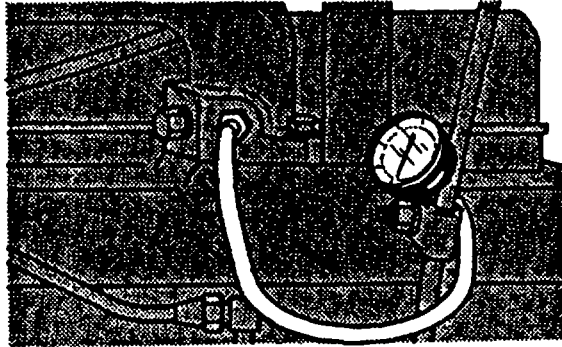

FIGURE 3-1. Connecting Test Gage to Intake Manifold
- a. Remove plug from intake manifold and connect suitable gage to intake manifold, refer to FIGURE 3-1.